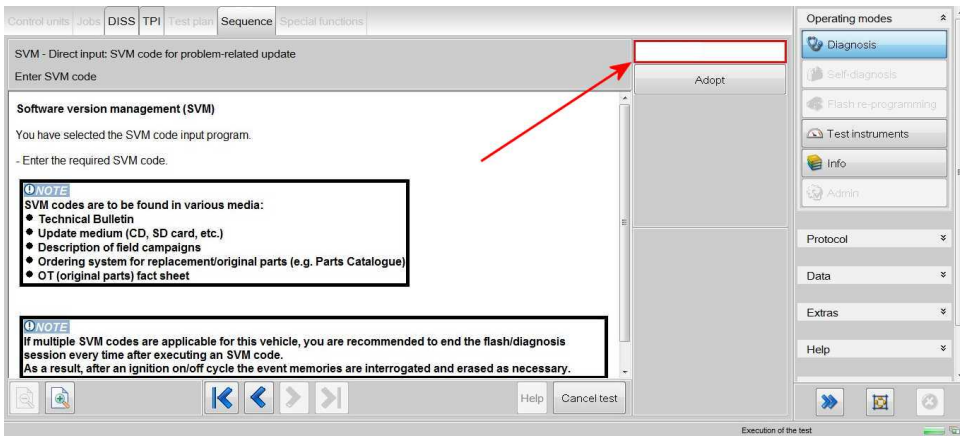

Figure 2
2. On the next screen enter the SVM code **371D6HHZDC** and select *Adopt* (Figure 2).
7. On the next screen enter the SVM code **371D7HKZDC** and select *Adopt* (Refer back to Figure 2)